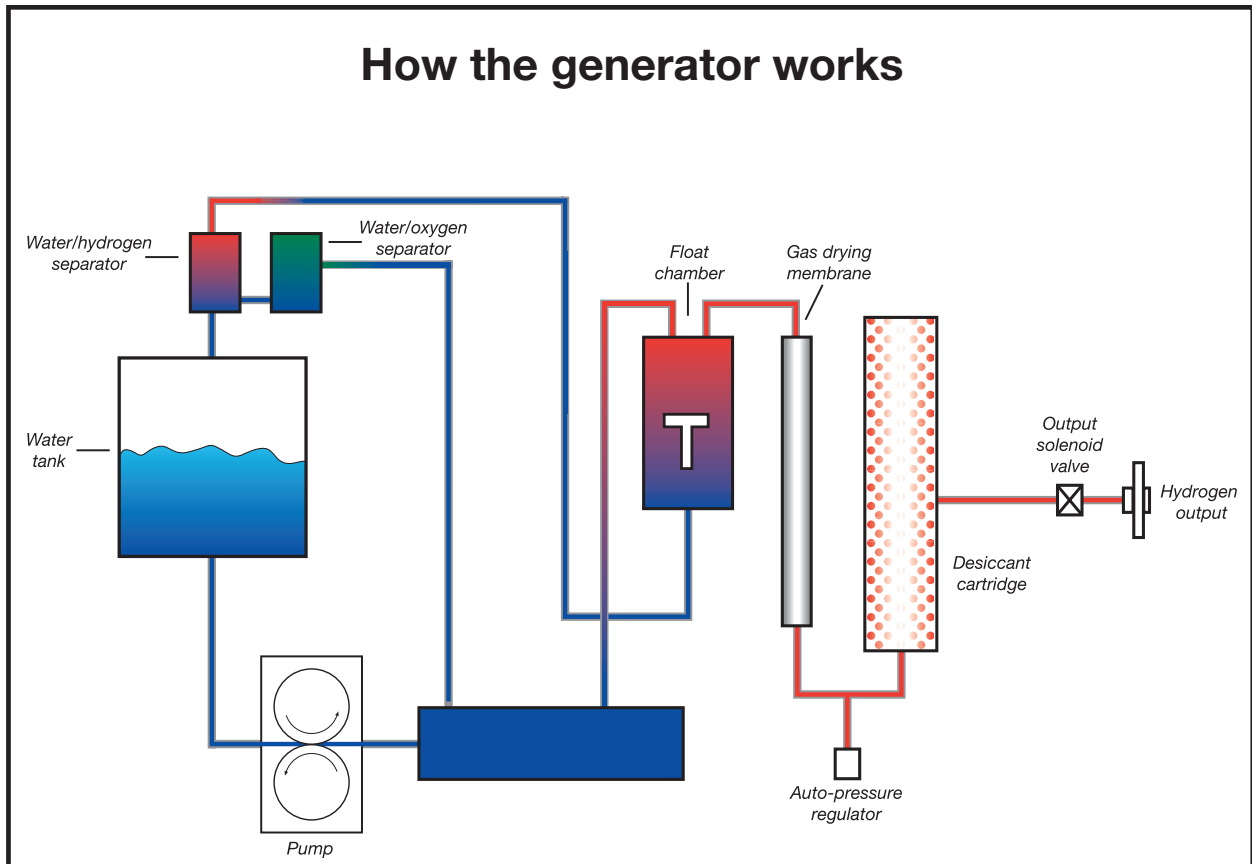

Figure 1: Hydrogen Technology
1. Carrier gas lines – Depressurize and vent the Hydrogen line. Then cut the fuel gas line (hydrogen) and add a tee. Extend a line into the Carrier Gas in-port behind the GC from the other side of the tee. See Figure 1.